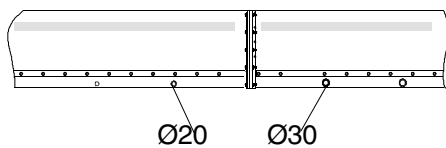

Fig. 2.12
- Bolt the channel segment together on the floor: **inflow side (hole Ø20) is bolted to outflow side (hole Ø30) (Fig.2.12)!** Insert the intermediate plate (d=5mm) beforehand, and ensure the sealing cords fit properly in the grooves of the channel head panel.